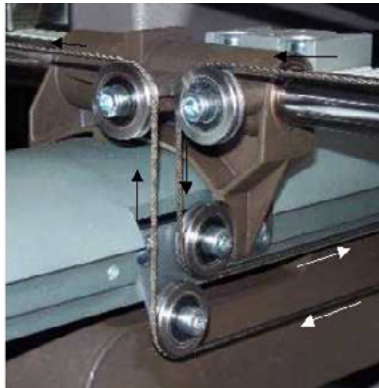

Figure 5 - Right Beam Cable Pulleys (Arrows indicate direction of cable to the front)
10. Run the cable around the bottom right beam pulley (see figure 5), around the right front carriage pulley into the cable access hole to the front of the machine.